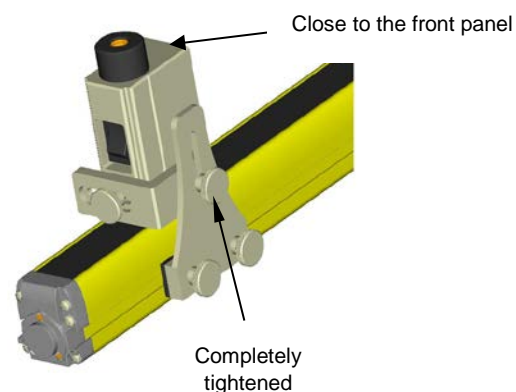

Figure 6
5. At this point, screw the last knob fixing together both the “c” and “d” brackets. Tighten the knob firmly keeping the laser pointer group close to the front panel of the AOPD. See Figure 6.